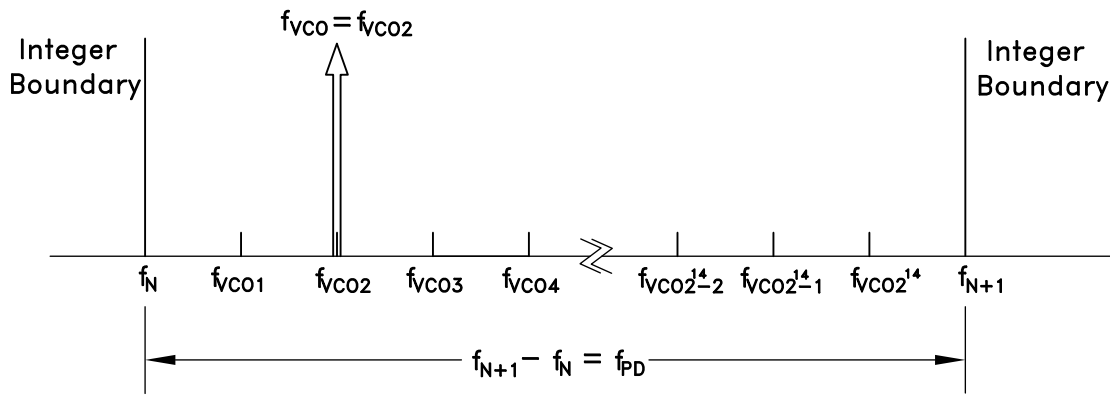

Figure 40. Exact Frequency Tuning
and f_{VCOk} are the channel step frequencies where $0 < k < 2^{24}-1$, As shown in Figure 40.
Some fractional PLLs are able to achieve this by adjusting (shortening) the length of the Phase Accumulator (the denominator or the modulus of the Delta-Sigma modulator) so that the Delta-Sigma modulator phase accumulator repeats at an exact period related to the interval frequency ($f_{VCOk} - f_{VCO(k-1)}$) in Figure 40. Consequently, the shortened accumulator results in more frequent repeating patterns and as a result often leads to spurious emissions at multiples of the repeating pattern period, or at harmonic frequencies of $f_{VCOk} - f_{VCO(k-1)}$. For example, in some applications, these intervals might represent the spacing between radio channels, and the spurious would occur at multiples of the channel spacing.
If it is desirable to have multiple, equally spaced, exact frequency channels that fall within the same interval (ie. $f_N \leq f_{VCO_k} < f_{N+1}$) where f_{VCO_k} is shown in Figure 40 and $1 \leq k \leq 2^{24}$, it is possible to maintain the same integer-N (Reg 03h) and exact frequency register (Reg 0Ch) settings and only update the fractional register (Reg 04h) setting. The Exact Frequency Channel Mode is possible if (EQ 16) is satisfied for at least two equally spaced adjacent frequency channels, i.e. the channel step size.
To configure the HMC1197LP7FE for Exact Frequency Channel Mode, initially and only at the beginning, integer (Reg 03h) and exact frequency (Reg 0Ch) registers need to be programmed for the smallest f_{VCO} frequency (f_{VCO1} in Figure 40), as follows:
1. Calculate and program the integer register setting $\text{Reg 03h} = N_{INT} = \text{floor}(f_{VCO1}/f_{PD})$, where f_{VCO1} is shown in Figure 40 and corresponds to minimum channel VCO frequency. Then the lower integer boundary frequency is given by $f_N = N_{INT} \cdot f_{PD}$.
$$\text{Reg04h} = N_{FRAC} = \text{ceil}\left(\frac{2^{24}(f_{VCO_k} - f_N)}{f_{PD}}\right) \quad \text{where } f_N = \text{floor}(f_{VCO1}/f_{PD}), \text{ and } f_{VCO1}, \text{ as shown in } \text{Figure 40}, \text{ represents the smallest channel VCO frequency that is greater than } f_N.$$
4. To change from channel 1 ($f_{VCO1} = 2800.2$ MHz) to channel 2 ($f_{VCO2} = 2800.3$ MHz), only **Reg 04h** needs to be programmed, as long as all of the desired exact frequencies f_{VCO_k} (Figure 40) fall between the same integer-N boundaries ($f_N < f_{VCO_k} < f_{N+1}$). In that case